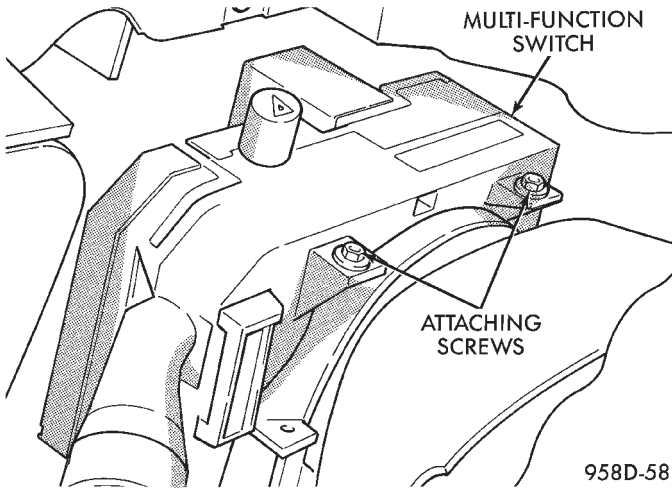

Fig. 61 Multi-Function Switch Removal/Installation
(11) Remove screws holding multi-function switch to lock housing (Fig. 61).